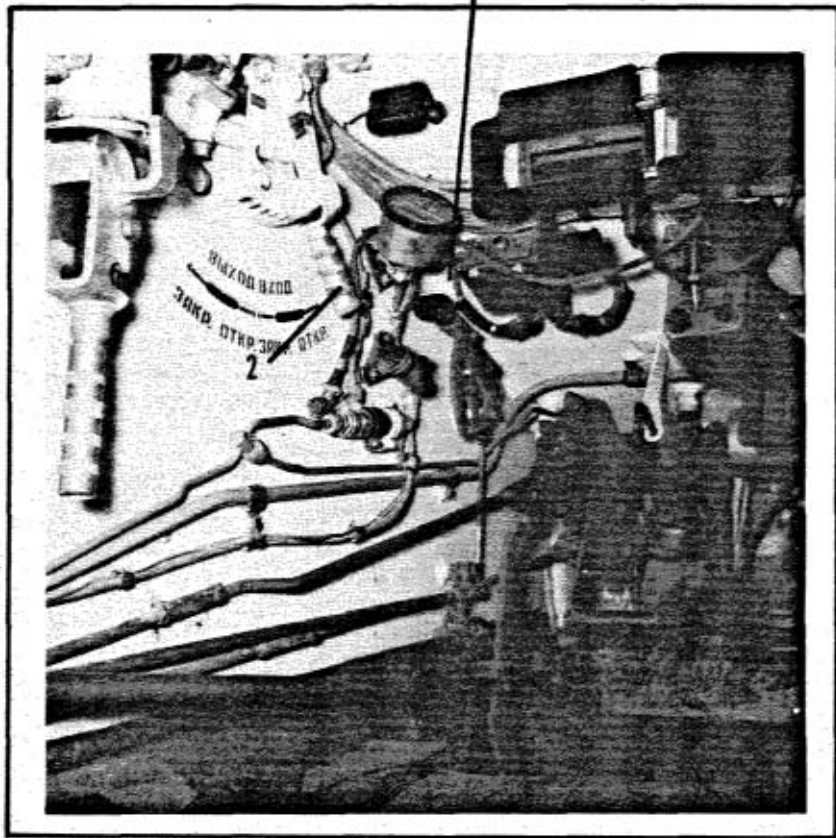

FIG. 2-13 DRIVER'S COMPARTMENT
2-14 HAND THROTTLE (Fig. 2-13)
d. Engine Cover Handle (Fig. 2-13) The engine cover handle, located to the driver's left on the hull wall, is used to close the engine covers when the tank is snorkeling. These covers prevent water from seeping into the engine compartment. There are two positions; open, when the handle is toward the tank bow; and closed, when the handle is towards the tank rear. The tank should always be operated with the engine covers open.
g. When the engine starts, release the oil pump-air start switch and, while depressing the accelerator, move the hand throttle down (Fig. 2-13) until the engine rpms are 700-800 on the tachometer. Check the gauges on the instrument panel. If the engine oil pressure is less than 2 kg/cm², stop the engine (see para 2-28) and determine cause. If all gauges are operating, increase engine rpms to 1300-1600 to warm-up the engine. The engine is considered warmed-up when the oil and water temperature are 50°C and the engine oil pressure is between 6-9 kg/cm².